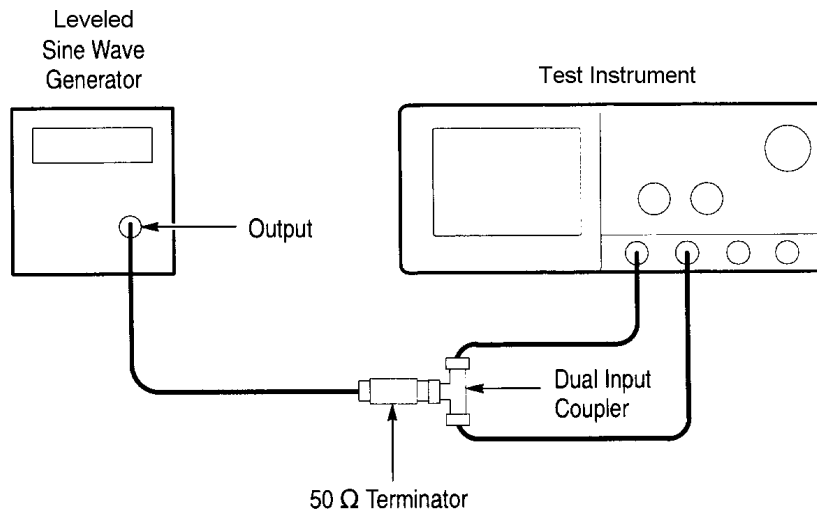

Figure 3. Equipment setup.
- (1) Press front-panel **SETUP** key.
- (2) Press main-menu **Recall Factory Setup** key.
- (3) Press side-menu **OK Confirm Factory Init** key.
- (4) Adjust front-panel **HORIZONTAL SCALE** knob to display **500 ps**.
- (5) Press front-panel **SHIFT** key.
- (6) Press front-panel **ACQUIRE MENU** key.
- (7) Press main-menu **Mode** key.
- (8) Press side-menu **Average 16** key.
- (9) Connect leveled sine wave generator leveling head to **CH 1** and **CH 2** using 50 $\Omega$  attenuator and dual input coupler. See figure 3.